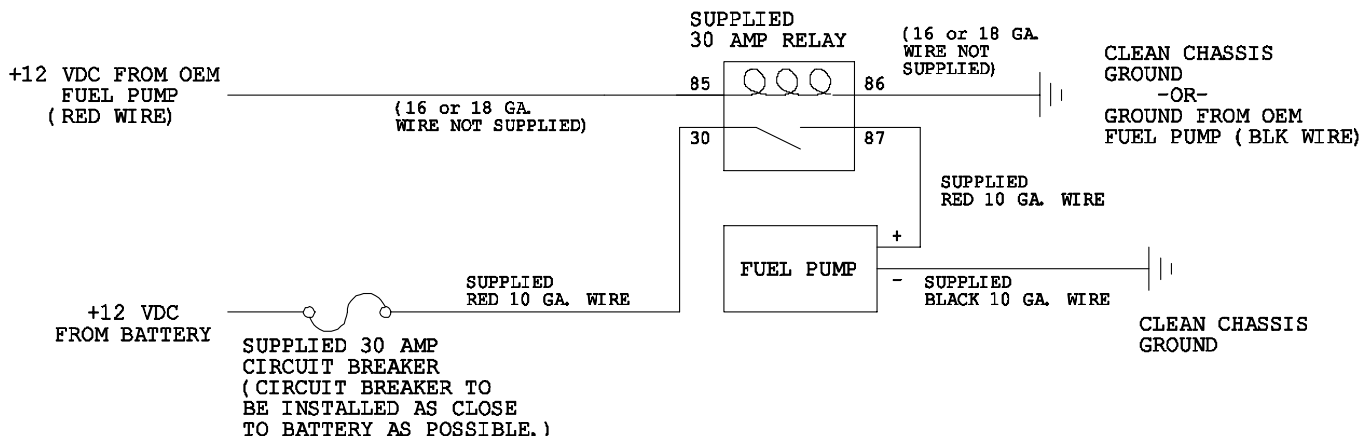

Figure 3-1
- 3-2. Attach the OEM fuel pump wires (These typically are the red and black wires from the OEM wiring harness going to the fuel tank) to relay terminals 85 and 86 using two of the supplied blue female blade connectors (See Figure 3-1 Below).
- 3-8. Ensure that electrical components and wires are connected properly (See Figure 3-1) and are clear of any moving suspension or drivetrain components and any exhaust components! Protect wires from abrasion and road obstructions or debris.